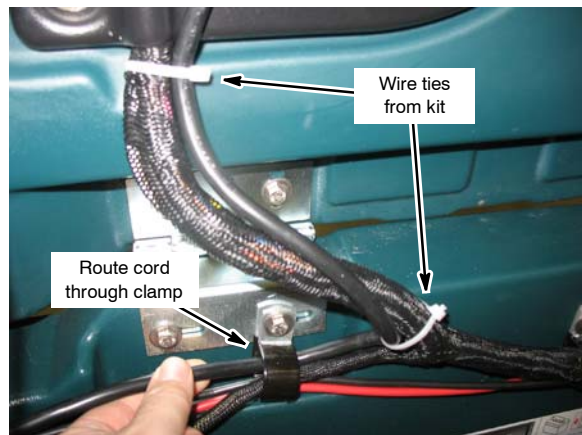

Fig. 4
4. Route the charger's AC cord through the cable clamp on the battery compartment wall. Secure the cord to the machine's wire harness using wire ties as shown (Figure 4).